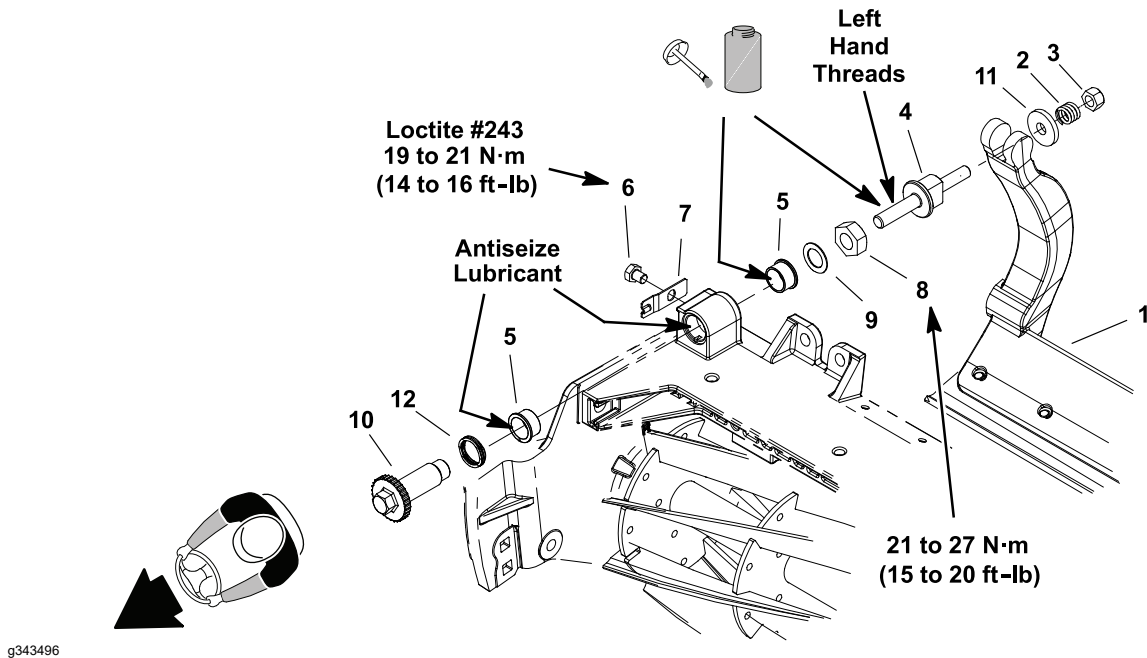

Figure 176
1. Remove the lock nut (item 3 in Figure 176), compression spring and washer from bedbar adjuster screw (item 4).
3. Remove the bedbar adjuster screw (left hand threads) from the bedbar adjuster shaft (item 10).
5. Inspect the flange bushings (item 5) in cutting unit frame and remove if necessary.
1. If the detent (item 7 Figure 176) was removed, apply Loctite #243 (or equivalent) to threads of cap screw and secure detent to cutting unit side plate with cap screw. Tighten cap screw from **19 to 21 N·m (14 to 16 ft-lb)**.
2. If the flange bushings (item 5) were removed, apply antiseize lubricant to bore of cutting unit frame. Align key on bushing to slot in frame and install bushings into frame. Apply antiseize lubricant to bore of each flange bushing.